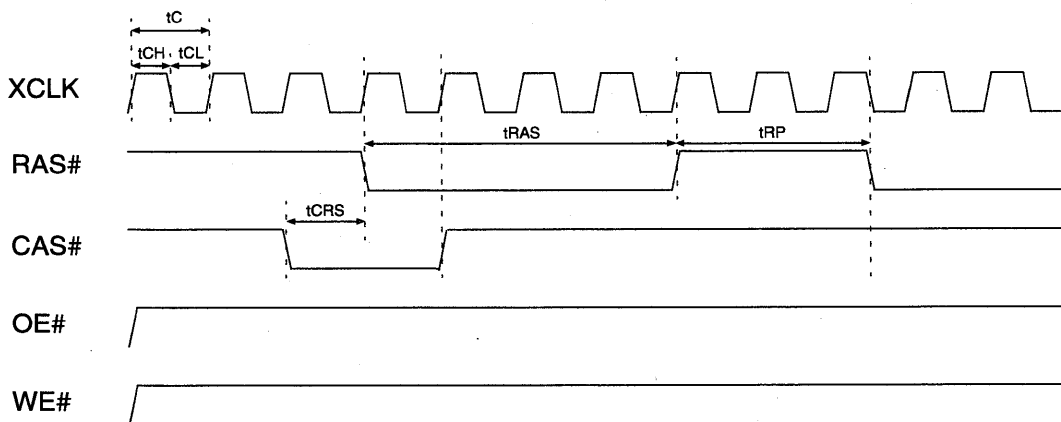

Figure 7-10. Refresh Cycle Timing
- Refresh Cycle Timing, see *Figure 7-10*.